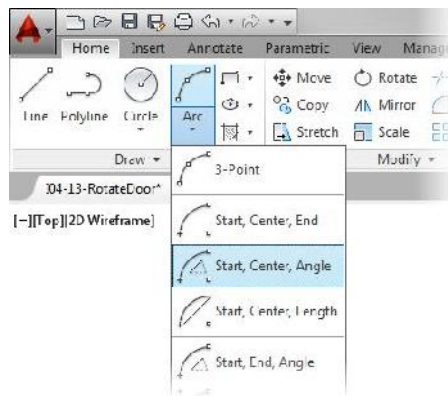

FIGURE 4.46: The expanded Arc menu
3. From the expanded Arc menu, choose Start, Center, Angle, as shown in Figure 4.46.